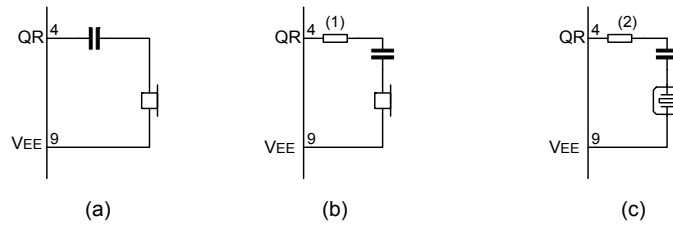

Fig.11 Alternative receiver arrangement
The receiving amplifier has one input (IR) and a non-inverting output (QR). Earpiece arrangements are illustrated in Fig.11. The IR to QR gain is typically 31dB (when  $R_4=100k\Omega$ ). It can be adjusted between 20 and 31dB to match the sensitivity of the transducer in use. The gain is set with the value of  $R_4$  which is connected between GAR and QR. The overall receive gain, between LN and QR, is calculated by subtracting the anti-sidetone network attenuation (32dB) from the amplifier gain. Two external capacitors,  $C_4$  and  $C_7$ , ensure stability.  $C_4$  is normally 100pF and  $C_7$  is 10 times the value of  $C_4$ . The value of  $C_4$  may be increased to obtain a first-order low-pass filter. The cut-off frequency will depend on the time constant  $R_4 \cdot C_4$ . The output voltage of the receiving amplifier is specified for continuous-wave drive. The maximum output voltage will be higher under speech conditions where the peak to RMS ratio is higher.